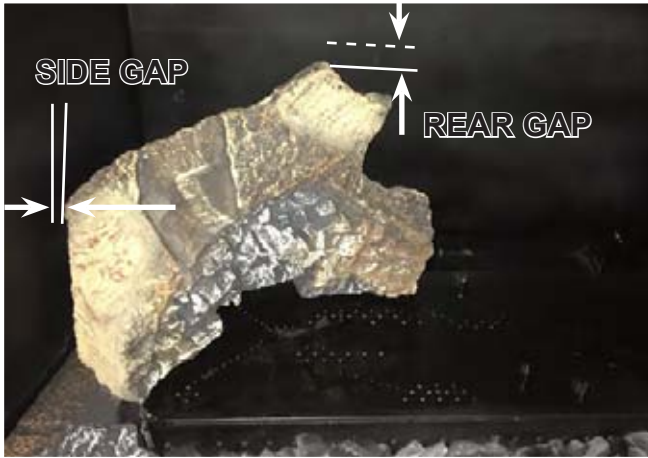

Figure 4. Rear Left Log Installed
**Note:** 350X-AU model does not utilize a hearth indentation on the left hearth. See Figure 4.
The rear left log will be positioned to maintain about a 1-1/4 in. (32 mm) rear gap between the rear left log and the back wall. The rear left log will maintain about a 3/4 in. (19 mm) gap from the left wall. See Figure 4.